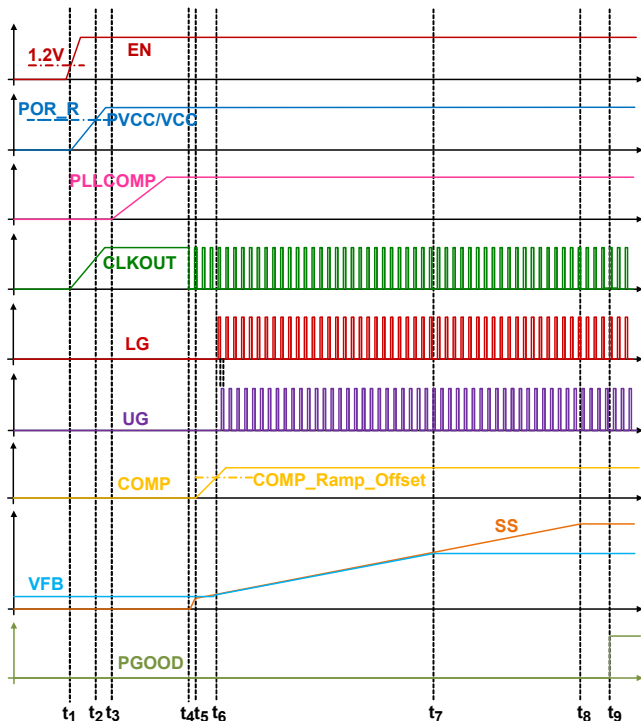

FIGURE 58. CIRCUIT INITIALIZATION AND SOFT-START
- There is no limit for the minimum voltage on the TRACK pin, but note the lower reference voltage and the lower voltage feedback regulation accuracy. Note the SS\_DONE signal is checking  $V_{REF\_TRK} \geq 0.3V$  as one of the conditions (refer to Figure 58 on page 29 and the  $t_g$ - $t_g$  description on page 29). Also, for the boost converter, the regulated output minimum voltage is usually the input voltage minus the upper MOSFET's body diode drop, in which case, the corresponding voltage at FB voltage is the minimum effective voltage for the  $V_{REF\_TRK}$ .
Before converter initialization, the EN pin voltage must be higher than its rising threshold and the PVCC/VCC pin must be higher than the rising POR threshold. When these conditions are met, the controller begins initialization and soft-start. Figure 58 shows the ISL78227 internal start-up timing diagram from the power-up to soft-start.
Assuming input voltage is applied to the VIN pin before  $t_1$  and VCC is connected to PVCC, as shown on Figure 58, the descriptions for start-up procedures are described as follows:
Diode emulation occurs during  $t_5$ - $t_8$  (on Figure 58 on page 29), regardless of the DE/PHDRP operating modes (Table 2).
As shown in Figure 3 on page 7, the ISL78227 monitors the VIN pin voltage divided by 48 (VIN/48) as the input voltage information. This fault detection is active at the beginning of soft-start (t5 as shown in Figure 58 on page 29).
The ISL78227 monitors the FB pin voltage to detect if an output overvoltage fault (VOUT\_OV) occurs. This fault detection is active at the beginning of soft-start (t5 as shown in the Figure 58 on page 29).